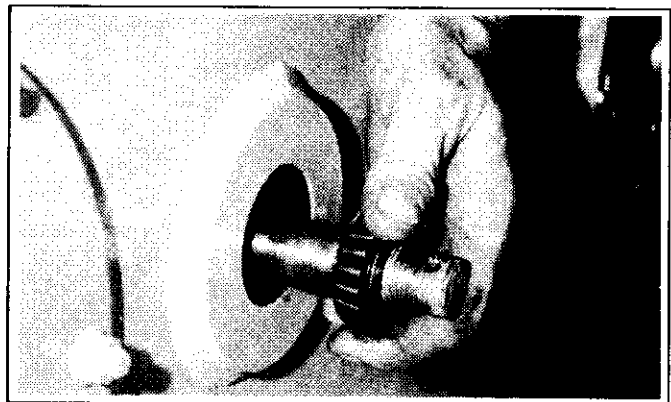

Figure 6-22
9. Slide the remaining bearing cone in on the cluster shaft. (See figure 6-22)